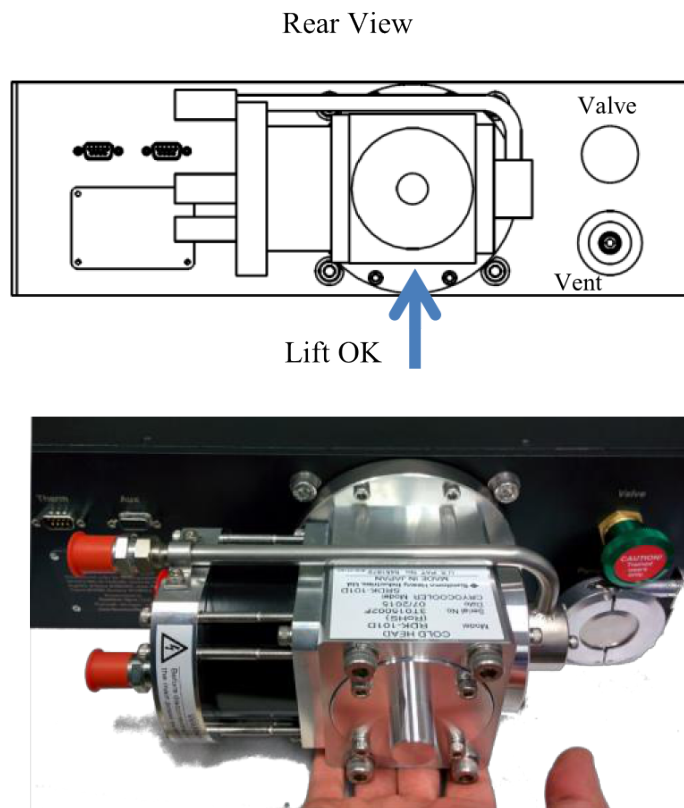

Figure 3: Rear view of the Opus One detector unit showing a suggested lift point for installation.
Refer to the diagram of the Opus One unit shown in Figure 3 on the next page for the procedures in this section.
1. Determine how to properly lift the detector head. Avoid lifting by any valve, port, electrical, or tubing connections. As long as you avoid the tubing lines, you *may* lift by the central solid aluminum block at the rear of the unit, as shown in Figure 3 on the next page.